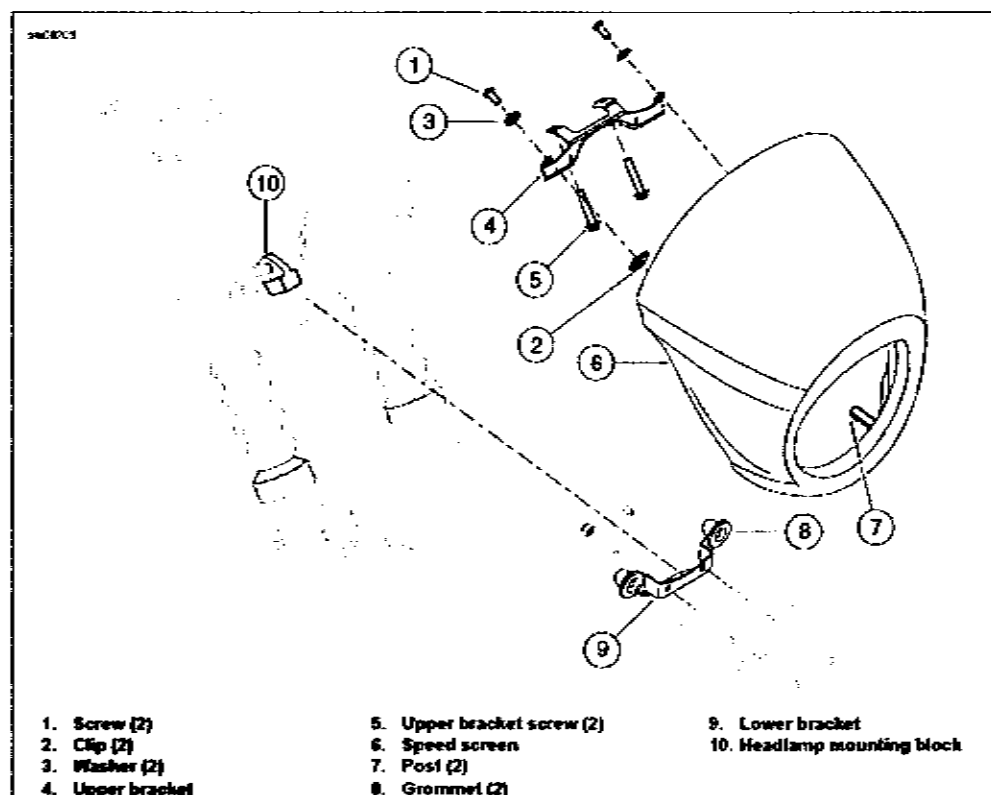

Figure 3-50. Speed Screen
1. See Figure 3-50. Remove speed screen.
- a. Remove screws (1) and washers (3).
- b. Pull speed screen (6) away from upper bracket (4).
- c. Pull speed screen away from lower bracket (9) to remove posts (7) from grommets (8).
- a. Remove upper bracket screws (5).
- b. Remove upper bracket (4).
- ~~a. Remove headlamp mounting block (10). See 6-10 HEADLAMP.~~
- ~~b. Remove lower bracket (9).~~
1. ~~Figure 3-50. Install lower bracket.~~
- ~~a. Position lower bracket (9).~~
- ~~b. Install headlamp mounting block (10). See 6-10 HEADLAMP.~~
- a. Position upper bracket (4).
- a. Align posts (7) with grommets (8).
- b. Install speed screen (6) onto lower bracket (9).
- c. Align speed screen to upper bracket (4).
- d. Install washers (3) and screws (1) to clips (2). Tighten to ~~1/2-11/16 INCH LBS~~ **1/2-11/16 INCH LBS**.